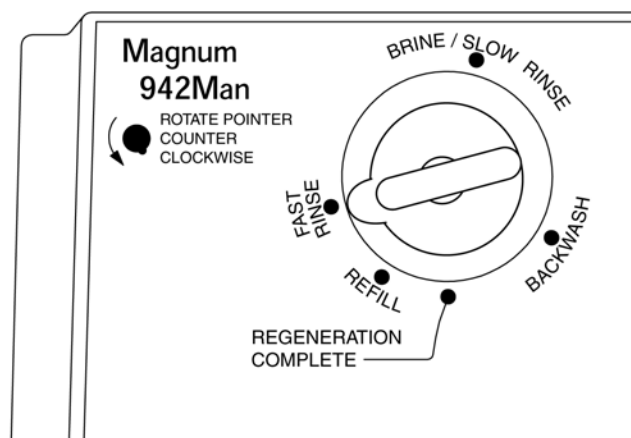

Figure 5.3
4. When the slow rinse is complete, move the indicator knob **COUNTERCLOCKWISE** to the center of the **Fast Rinse** position (Figure 5.3). The indicator knob should remain in the **Fast Rinse** position for the appropriate amount of time. Specific fast rinse times are determined by water quality, clarity of drain water, water pressure, and flow. Fast rinse serves to eliminate excess salt and repack the resin bed for the service run. Typically fast rinse should continue for 5 - 15 minutes\*.